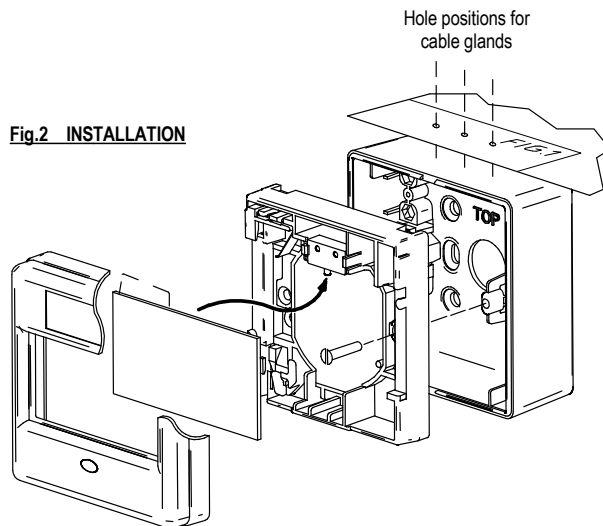

Fig.2 INSTALLATION
The surface mounting call point comes complete with a back box onto which the call point is mounted. There is provision for rear cable entry, and by using the template below (fig.1), cable holes can be drilled into the top or bottom of the back box to accept one (A) or two (B) cable glands - Max. dia.20mm (see fig.2).